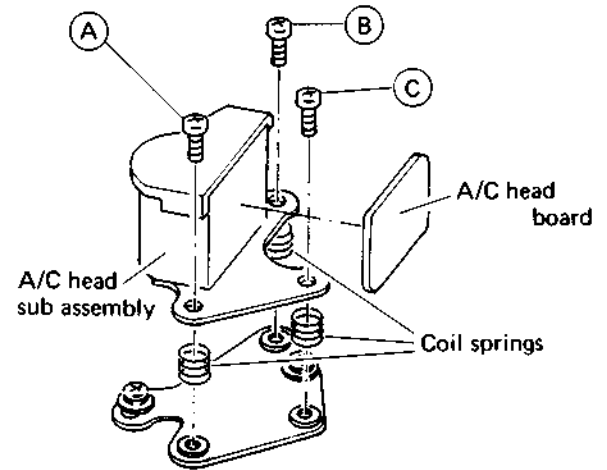

Fig. 5-5 A/C head replacement
1. Take out screws (A), (B) and (C) to remove the A/C head subassembly. Use care regarding the coil springs as shown in Fig. 5-5.